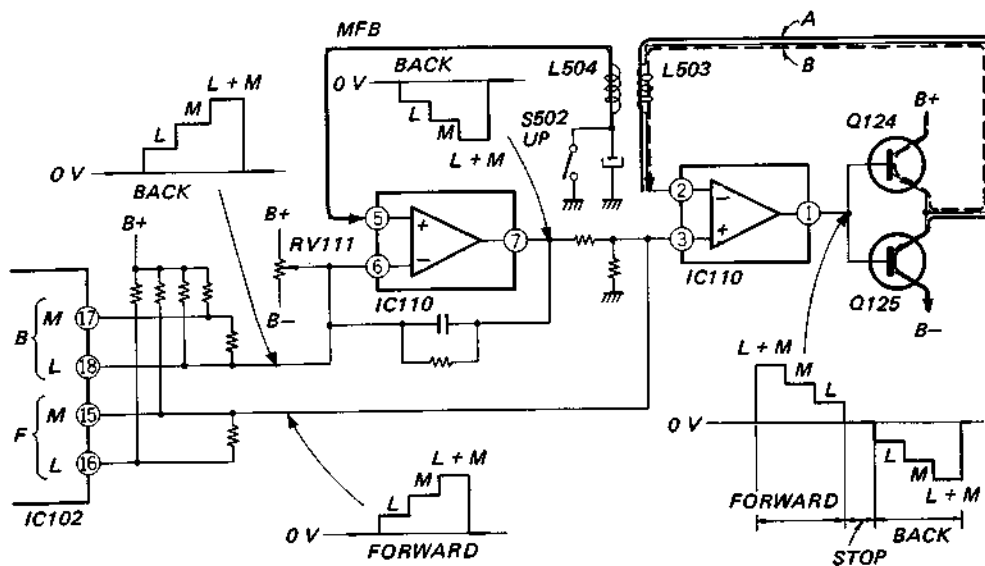

Fig. 3
3. Tonearm Swiveling Circuit (see Fig. 3):